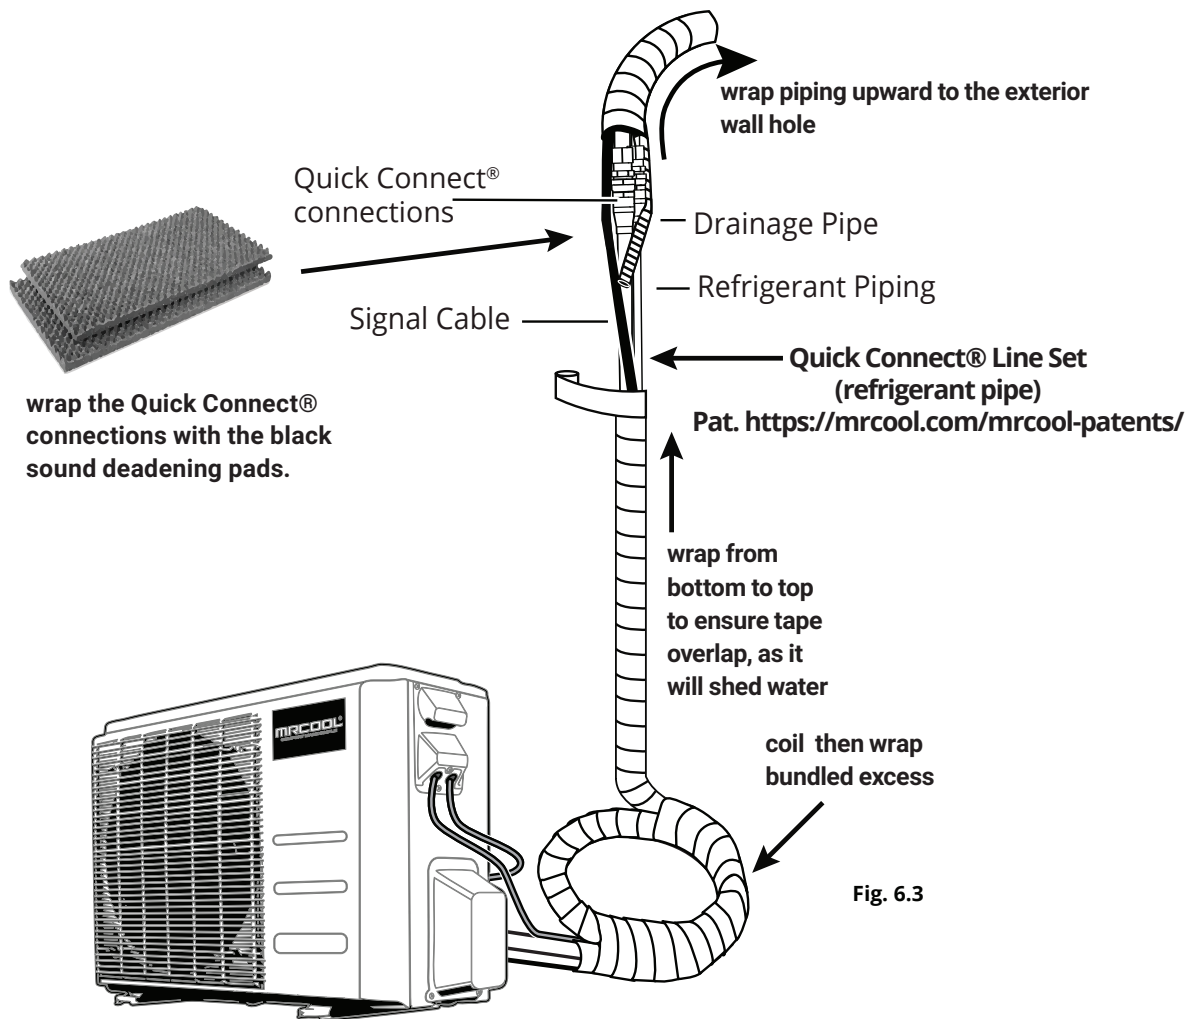

Fig. 6.3
3. Now, starting at the outdoor condenser and working your way up to the wall hole, you will wrap the exposed line set, cables, and drain hose together tightly using the supplied Non-adhesive U.V. tape. The drain pipe will need to be at the bottom of the bundle (**Refer to Fig. 6.3 and the image below**). ***DO NOT*** wrap the end of the drain hose